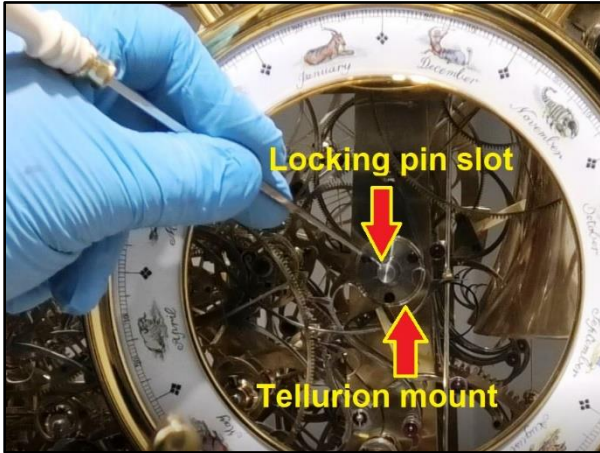
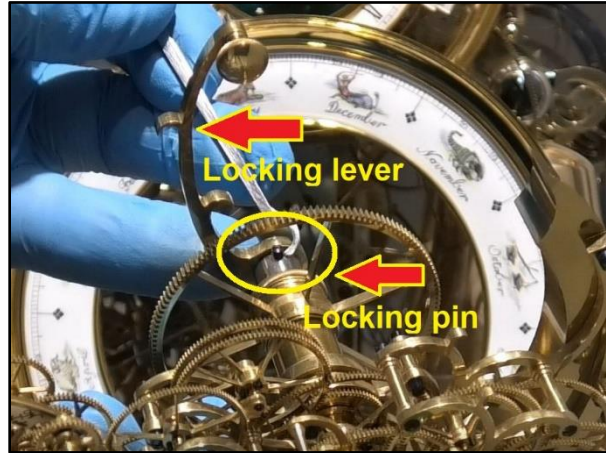

Fig 6. Locate pin (key) slot
Fig. 7. Locate pin (key), ensure locking lever is fully counterclockwise
2. Locate the tellurion mount on the clock frame and note where the locking pin (key) slot is located (about the 10 o'clock position), Fig. 6. Locate the locking pin (key) on the tellurion module, Fig. 7. Check to see that the locking lever is rotated fully counterclockwise.